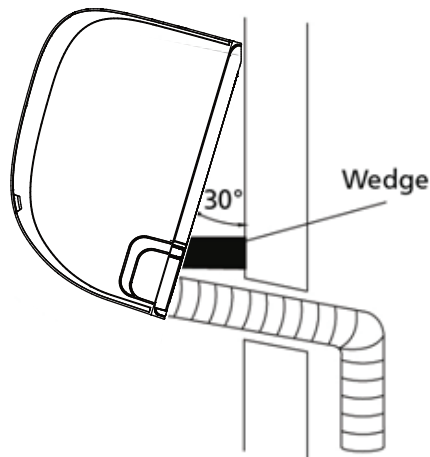

Fig. 3.13
2. Use a bracket or wedge to prop up the unit, giving you enough room to connect the refrigerant piping, signal cable, and drain hose. Refer to Fig. 3.13 for an example.